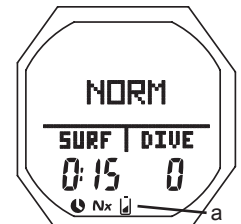

Fig. 1 - LOW BATT WARNING
- Battery icon (shell with inner bar) appears solid (Fig. 1 a).